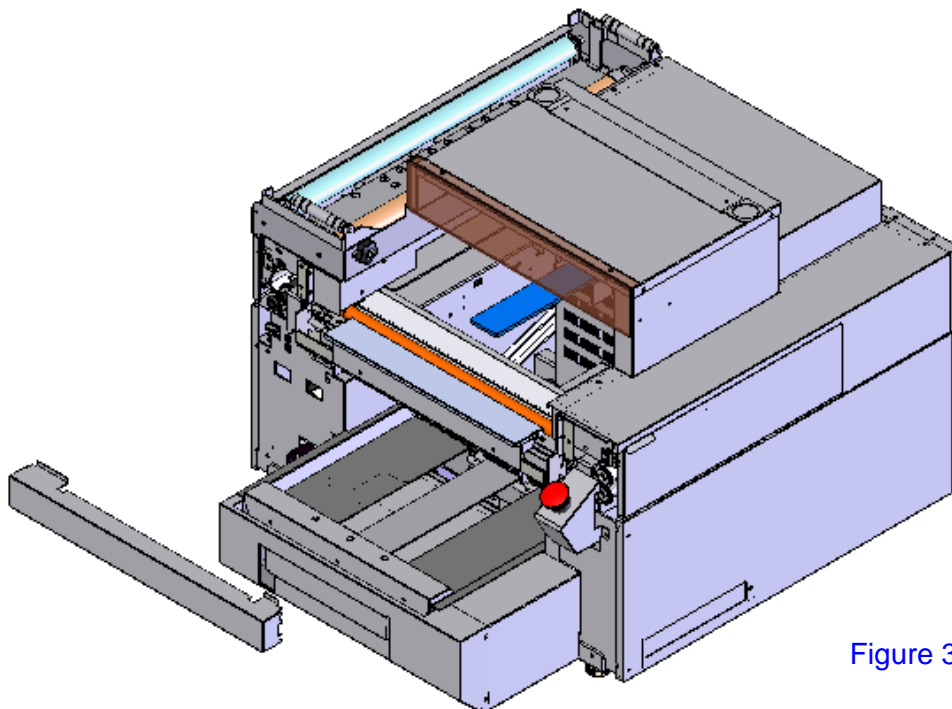

Figure 3.
8. Remove the front, center cover -- below the exit heater roller (loosen four screws). See Figure 3.